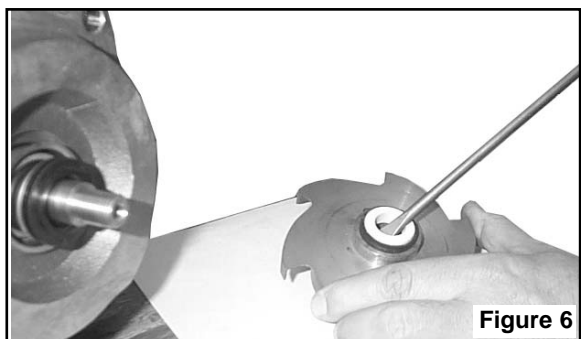

Figure 6
4. The seal can now be removed from the impeller (Figure 6).